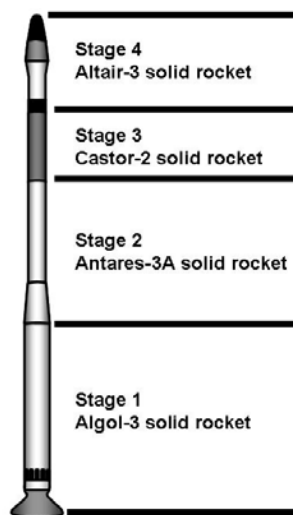

Figure 1. Scout-G/Rajah 1
- [b] Consider the Scout-G multi-staged rocket, which was designed to place small satellites into low Earth orbit. The Scout-G is designed with four stages (see figure 1.). Compute and compare the ΔV of the Scout-G with a single-stage equivalent rocket. Both rockets carry a 185 kg satellite payload. Assume that the single-staged rocket has an I_{sp} of 280s (which is the average of the Scout-G rocket's four stages).